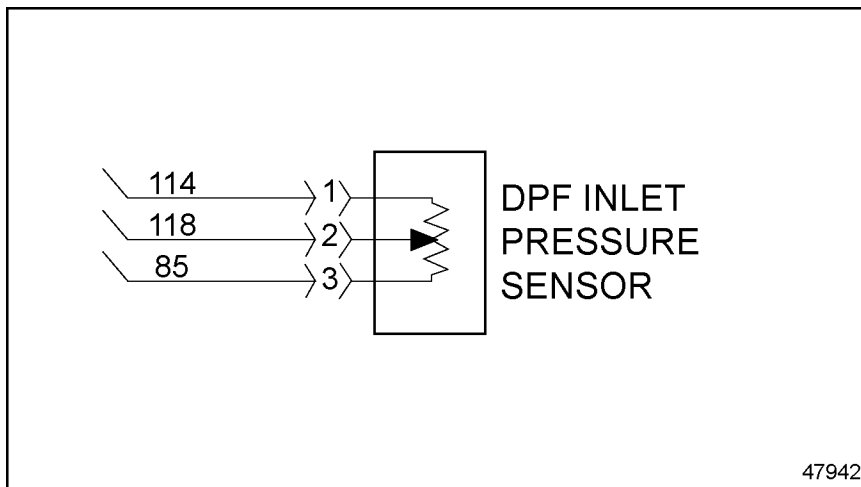

Figure 3 DPF Inlet Pressure Sensor
5. Disconnect DPF Inlet Pressure Sensor connector. See Figure 3.